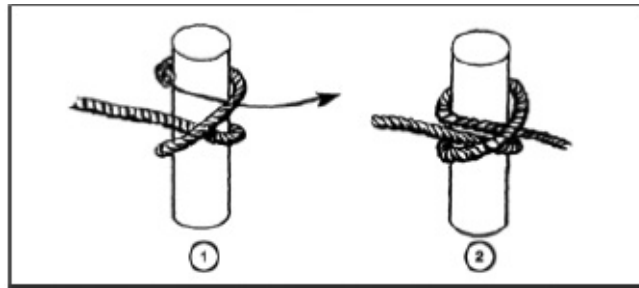

Figure 5-7. End-of-the-rope clove hitch
- c. **End-of-the-Rope Clove Hitch.** The end-of-the-rope clove hitch (Figure 5-7) is an intermediate anchor knot that requires constant tension. Make two turns around the anchor. A locking bar runs diagonally from one side to the other. Leave no more than one rope width between turns of rope. Locking bar is opposite direction of pull. When you dress the knot, leave at least a 4-inch tail on the working end.